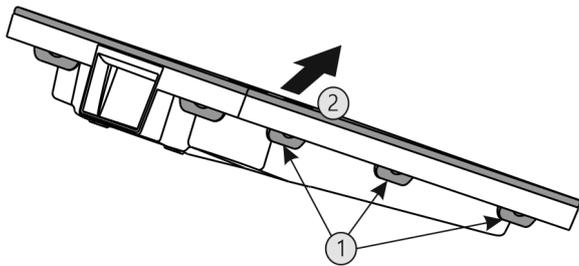

Fig. 52
- ▶ Press all lugs Fig. 52 (1) in succession and remove the lid Fig. 52 (2).